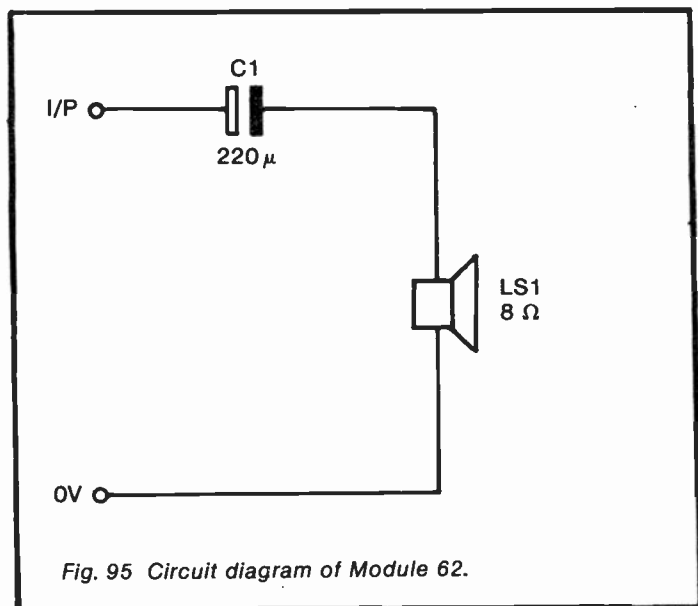

Fig. 95 Circuit diagram of Module 62.
*Circuit diagram:* see Figure 95.